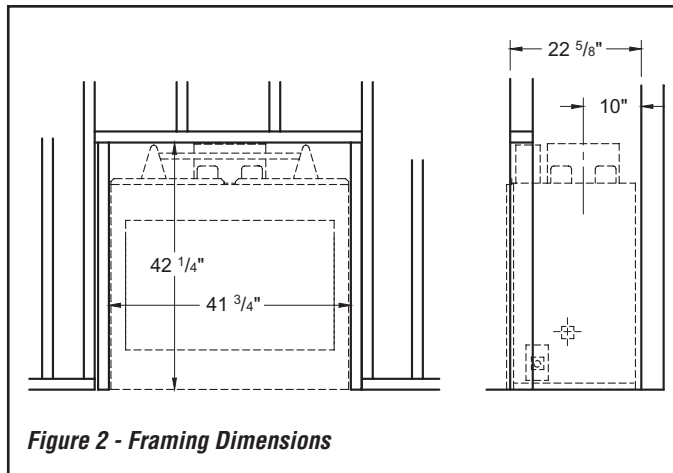

Figure 2 - Framing Dimensions
1. Frame opening for fireplace using dimensions shown in **Figures 2 and 3**.